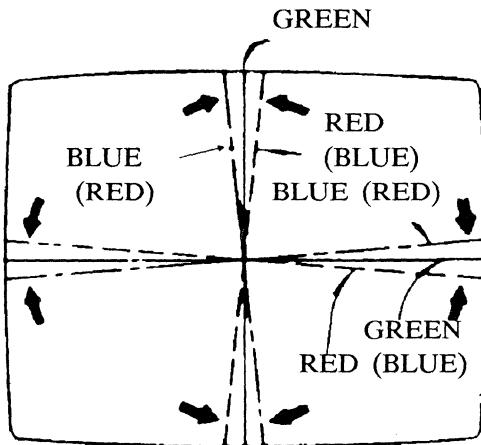

Fig. 13. Dynamic Convergence A
- (3) Tilt the deflection yoke up and down. Insert tilt adjustment wedges 1 and 2 between the deflection yoke and the CRT until the misconvergence illustrated in Figure 13 has been corrected.